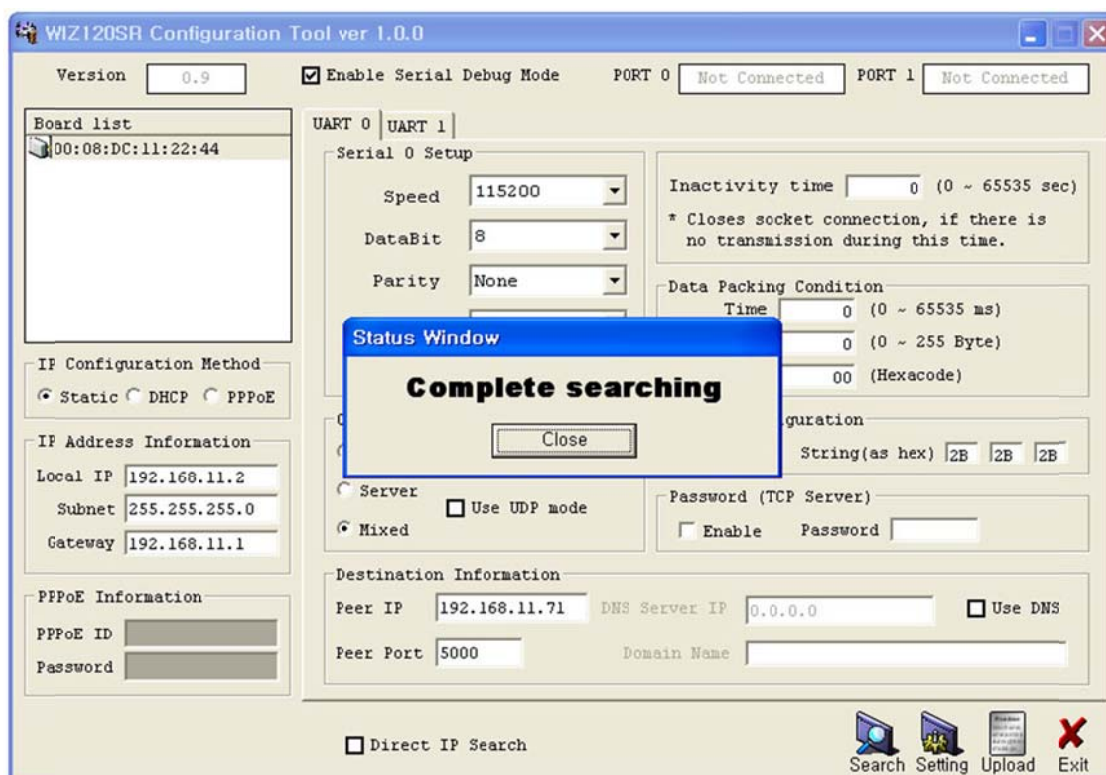

Figure 5. Board Search Window
- ① Run 'WIZ120SR Configuration Tool' program, and click the "Search" button.
- ② If the module is properly connected to the network, the "Searching Complete" message and the MAC address will be displayed on the "Board List" as shown in Figure.5.
- ③ Select a module shown in the "Board list", and click the "Upload" button.
- ⚠ Before uploading the firmware through Ethernet, you should set the network information of WIZ120SR first, by Configuration Tool program as shown above in Figure 5. By using Ping test, you can check whether your network is configured correctly or not.
- ④ When the window as shown in Figure 5 is displayed, select file to upload and click the "Open" button.